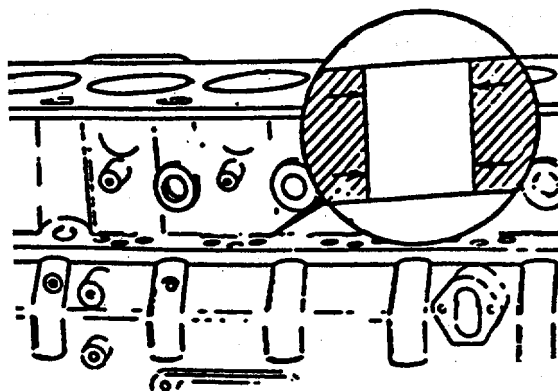

FIGURE 4-83. Inspecting Tappet Bores
- g. Using a universal bushing installation tube, drive the cam bushing from the cylinder block. Inspect the tappet bores for scoring or excessive wear (FIGURE 4-83).